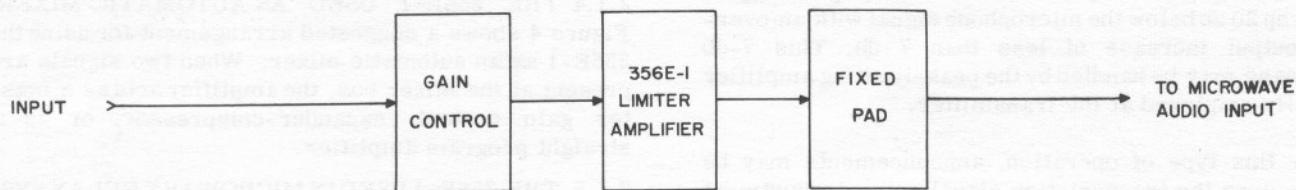

Figure 5. Collins Type 356E-1 Limiter Amplifier as Automatic Level Control
2.1.5 THE 356E-1 USED IN MICROWAVE RELAY SYSTEM. Figure 5 shows a suggested arrangement for using the 356E-1 to minimize audio level variations in a microwave relay system.